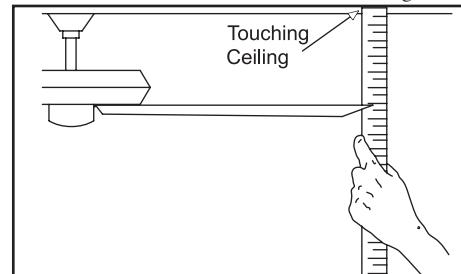

Figure 10
2. Most fan wobble problems are caused when blade levels are unequal. Check this level by selecting a point on the ceiling above the tip of one of the blades. Measure from a point on the center of each blade to the point on the ceiling. Measure this distance as shown in Figure 10. Rotate the fan until the next blade is positioned for measurement. Repeat for each blade. Measurements deviation should be within  $1/8"$ . Run the fan for 10 minutes.